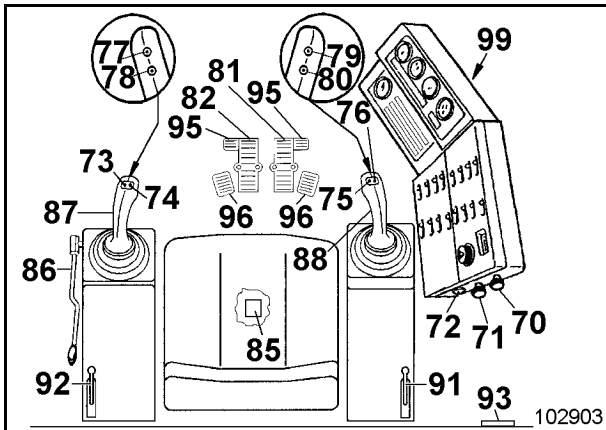

Fig. 2-51:
**The superstructure is braked when control Lever (87, Fig. 2-51:) is shifted into the opposite direction (countering).**
Turn potentiometer (71, Fig. 2-51:) clockwise until the maximum required working speed of the equipment (boom, stick, bucket or backhoe bucket).
- ⇨ pull control lever (88, Fig. 2-51:) backwards.